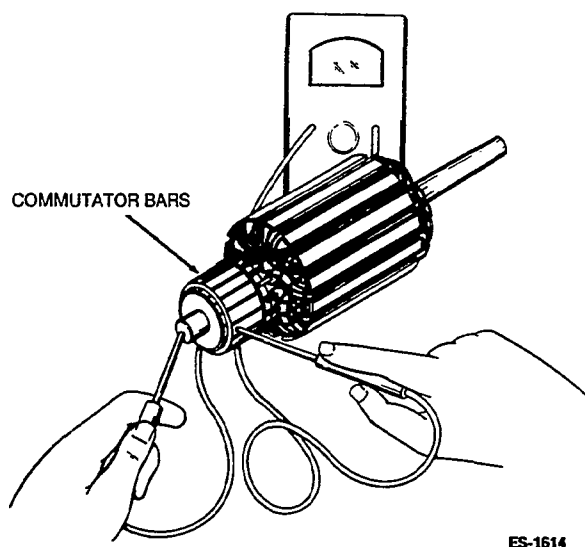

FIGURE 6-39. TESTING ARMATURE FOR GROUNDS
**Testing Armature for Grounds:** Touch one ohmmeter lead to a commutator bar, then touch the other lead to the armature shaft and the core laminations. A low resistance reading indicates a grounded armature. Replace a grounded armature with a new one. See Figure 6-39.